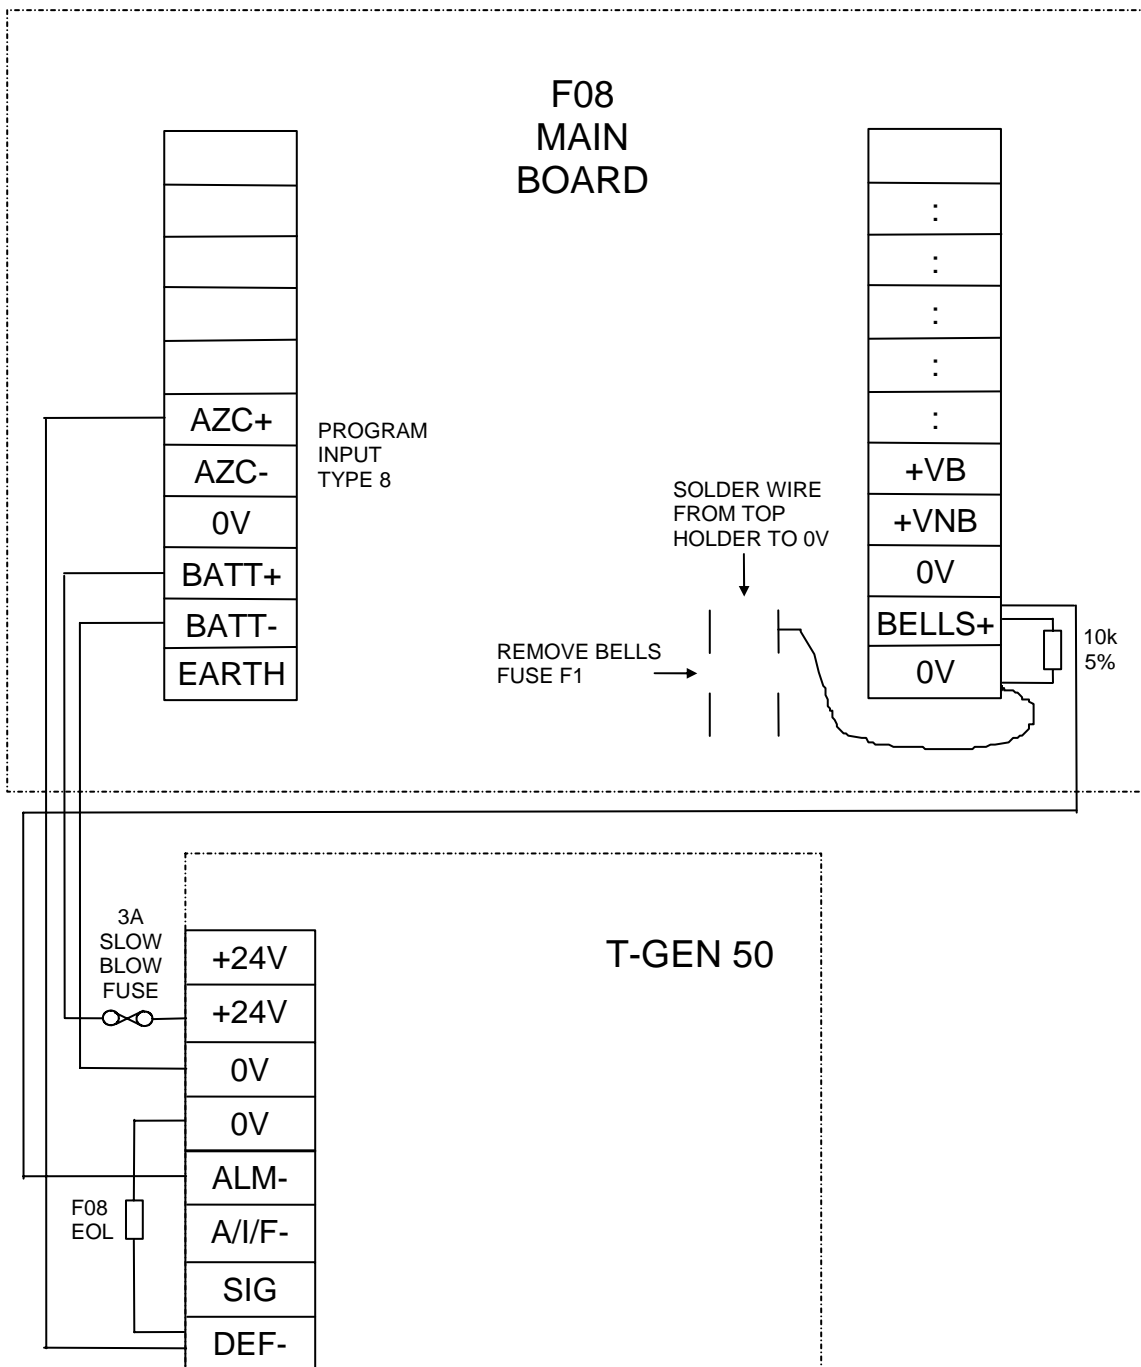

Figure 2.13A
- 2) Solder a wire to the top Bell Fuse holder and connect it to 0V as per Figure 2.13A.
- 3) Connect the T-GEN as per Figure 2.13A.